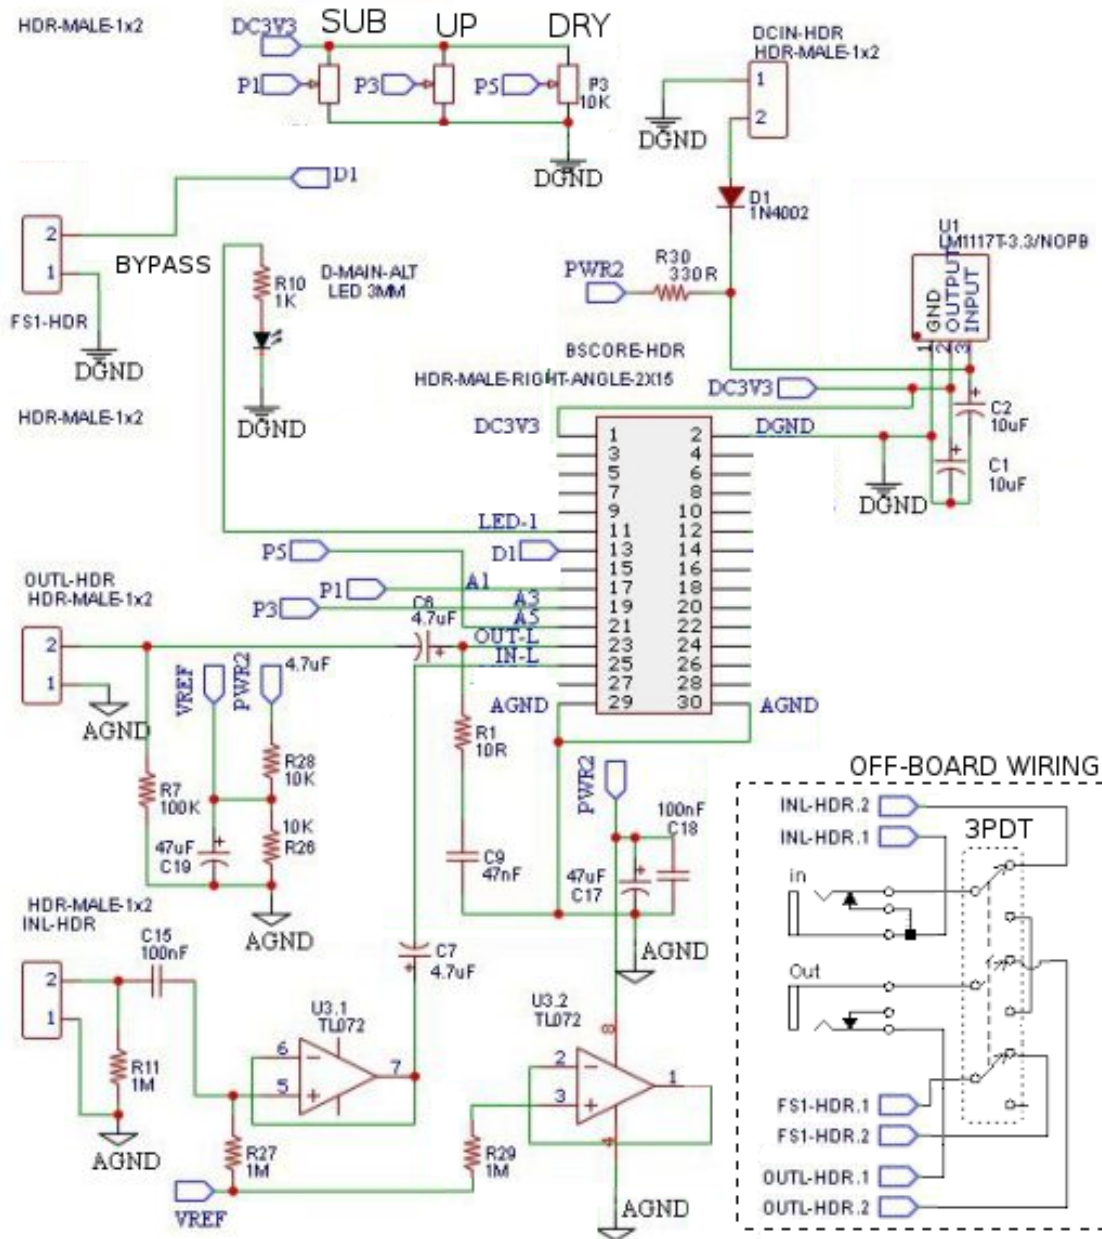

Figure 3. DT-FOG Pedal Application Circuit (Input Impedance = 0.5 MOhm)
- A) Application circuit is shown in Figure 3